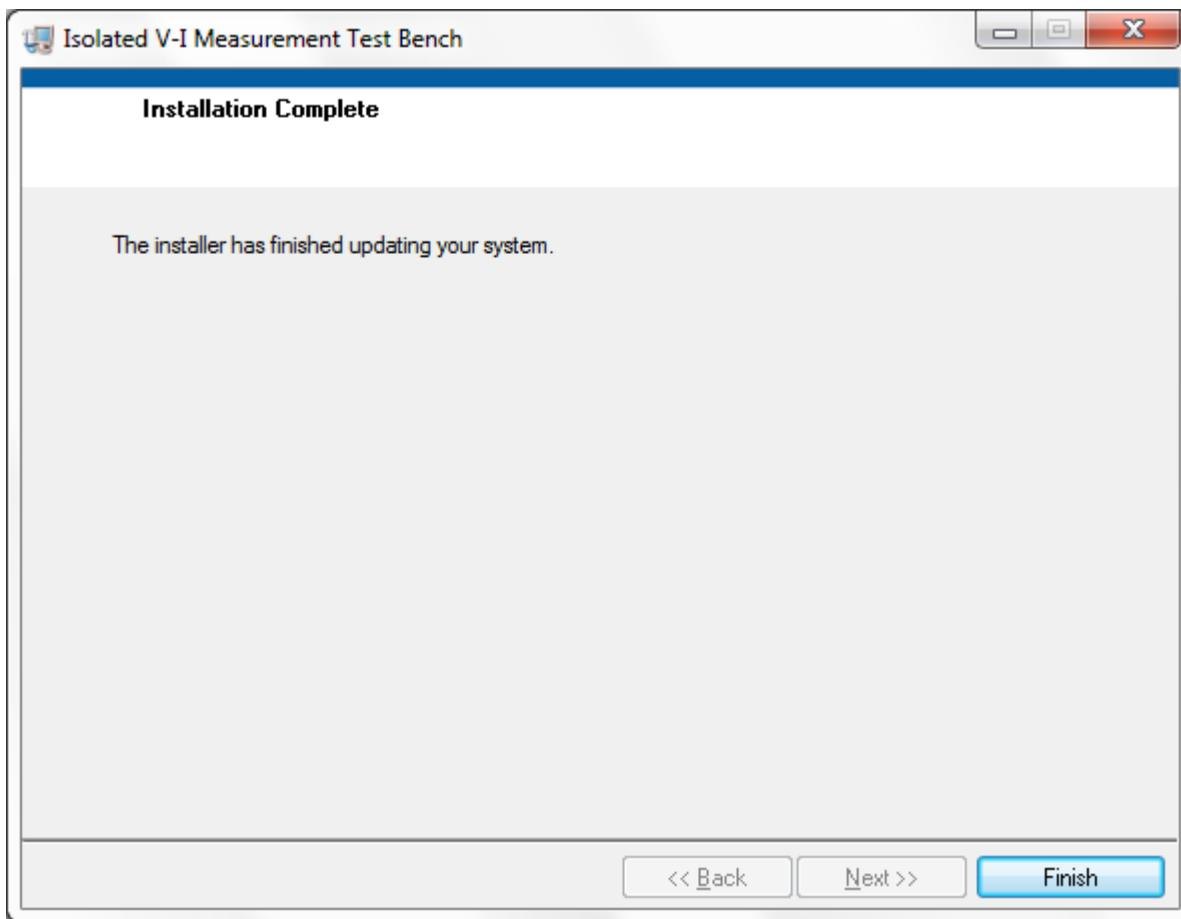

図 43. Installation Completes
3. The program installs and finishes as shown in 図 43. Click *Finish*.